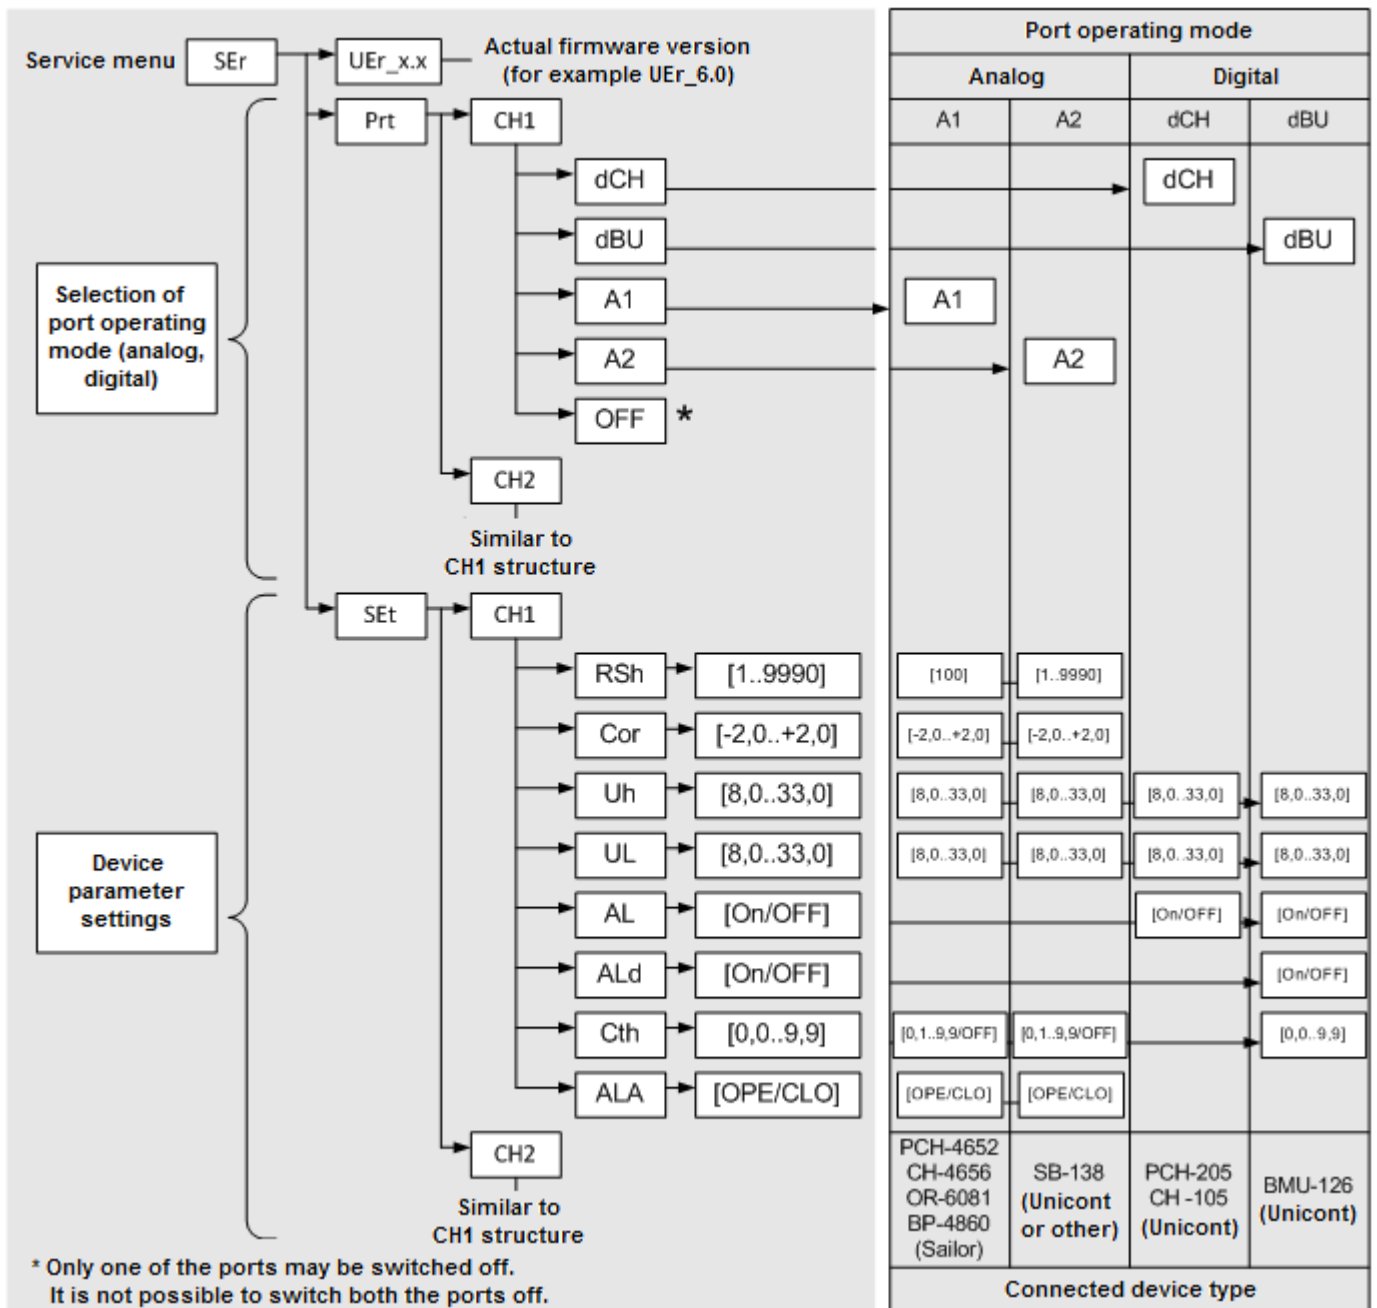

Fig. 9. General structure of the service BCP-136 menu.
- Enter the service menu (ref. section 8, Fig. 9, Table 7).
In dependence of the current operating mode and type of the battery panel (BCP-136 or BCP-136-01), general structure of the service menu may dynamically change. Accessible settings are show in the service menu diagram (ref. Fig. 9).